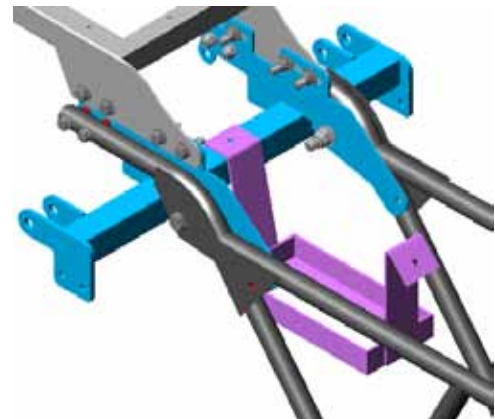

Figure 37
- Set Champion Battery Tray into position over frame cross bar and Shock Mount. Figure 37